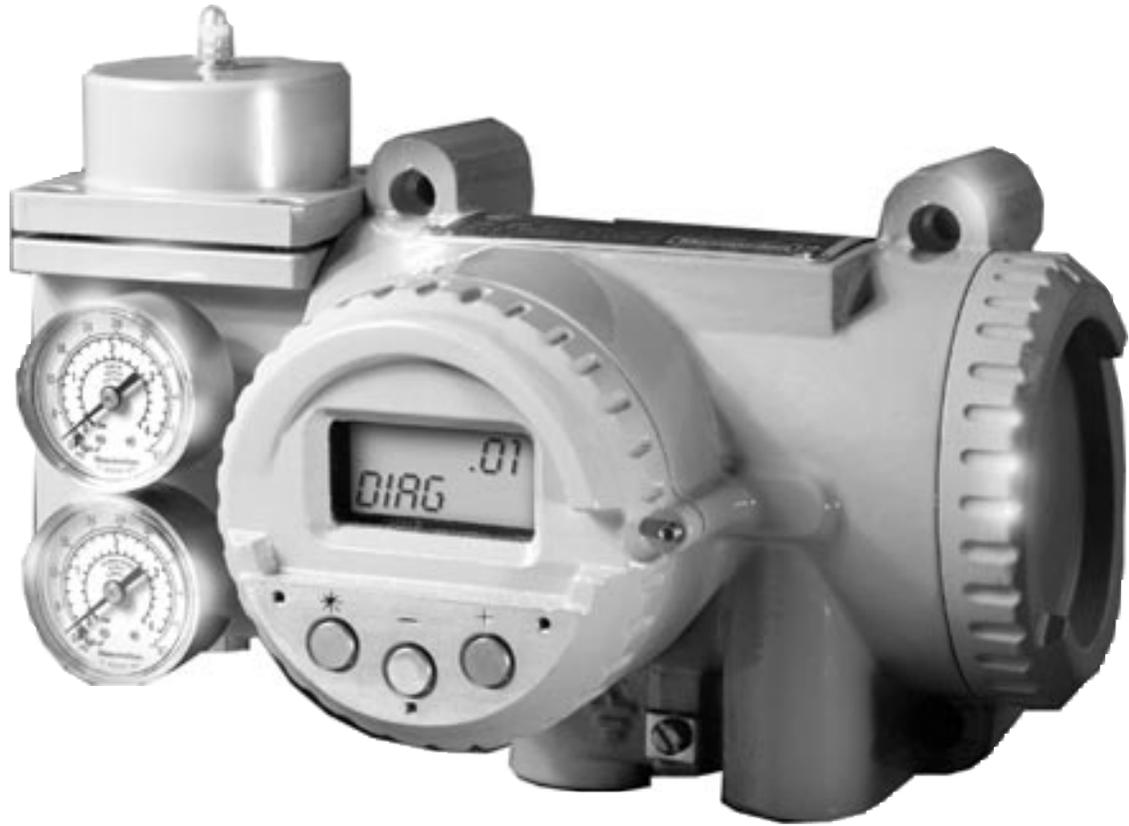

Figure 1. Smart Valve Interface
The Smart Valve Interface, as shown in Figure 1, is a digital valve positioner and/or process controller that can be either configured, calibrated, and operated locally or remotely. Local functions are controlled by means of local pushbuttons and digital display. Remote operation requires the use of the ValVue product, or a hand-held unit loaded with the registered HART Device Description (DD).